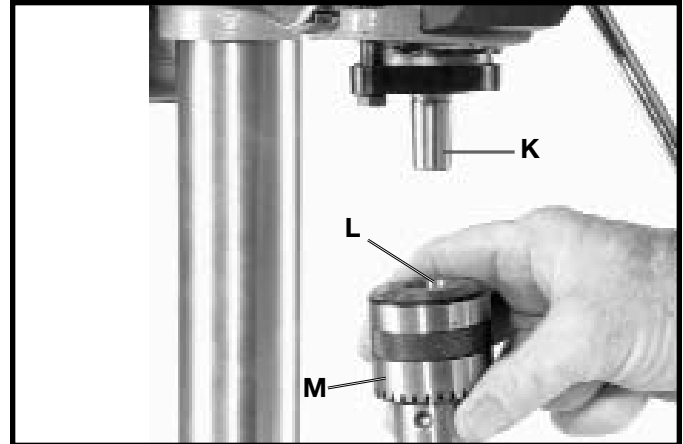

Fig. 8
6. **IMPORTANT:** The spindle taper (K) Fig. 8, and the tapered hole (L) in the chuck (M) are coated with a clear rust protectant and will require a solvent to remove the coating. These surfaces must be clean to ensure that the chuck will adhere to the spindle and will not come loose during operation. **NOTE:** Household oven cleaner can effectively remove the rust protectant coating from the spindle and chuck; however, carefully follow the manufacturer's safety rules concerning its use. Then push the chuck (M) up on the spindle (K) as far as it will go.